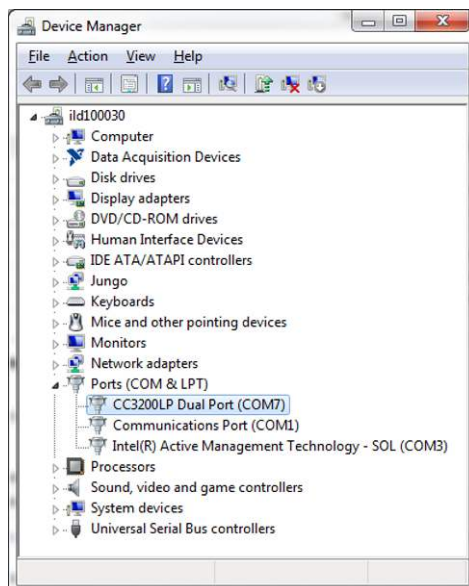

Figure 7. Detecting COM Port of LaunchPad™
1. When the USB cable is connected to the LaunchPad, check Windows Device Manager, whose COM port was opened for the LaunchPad (see Figure 7).